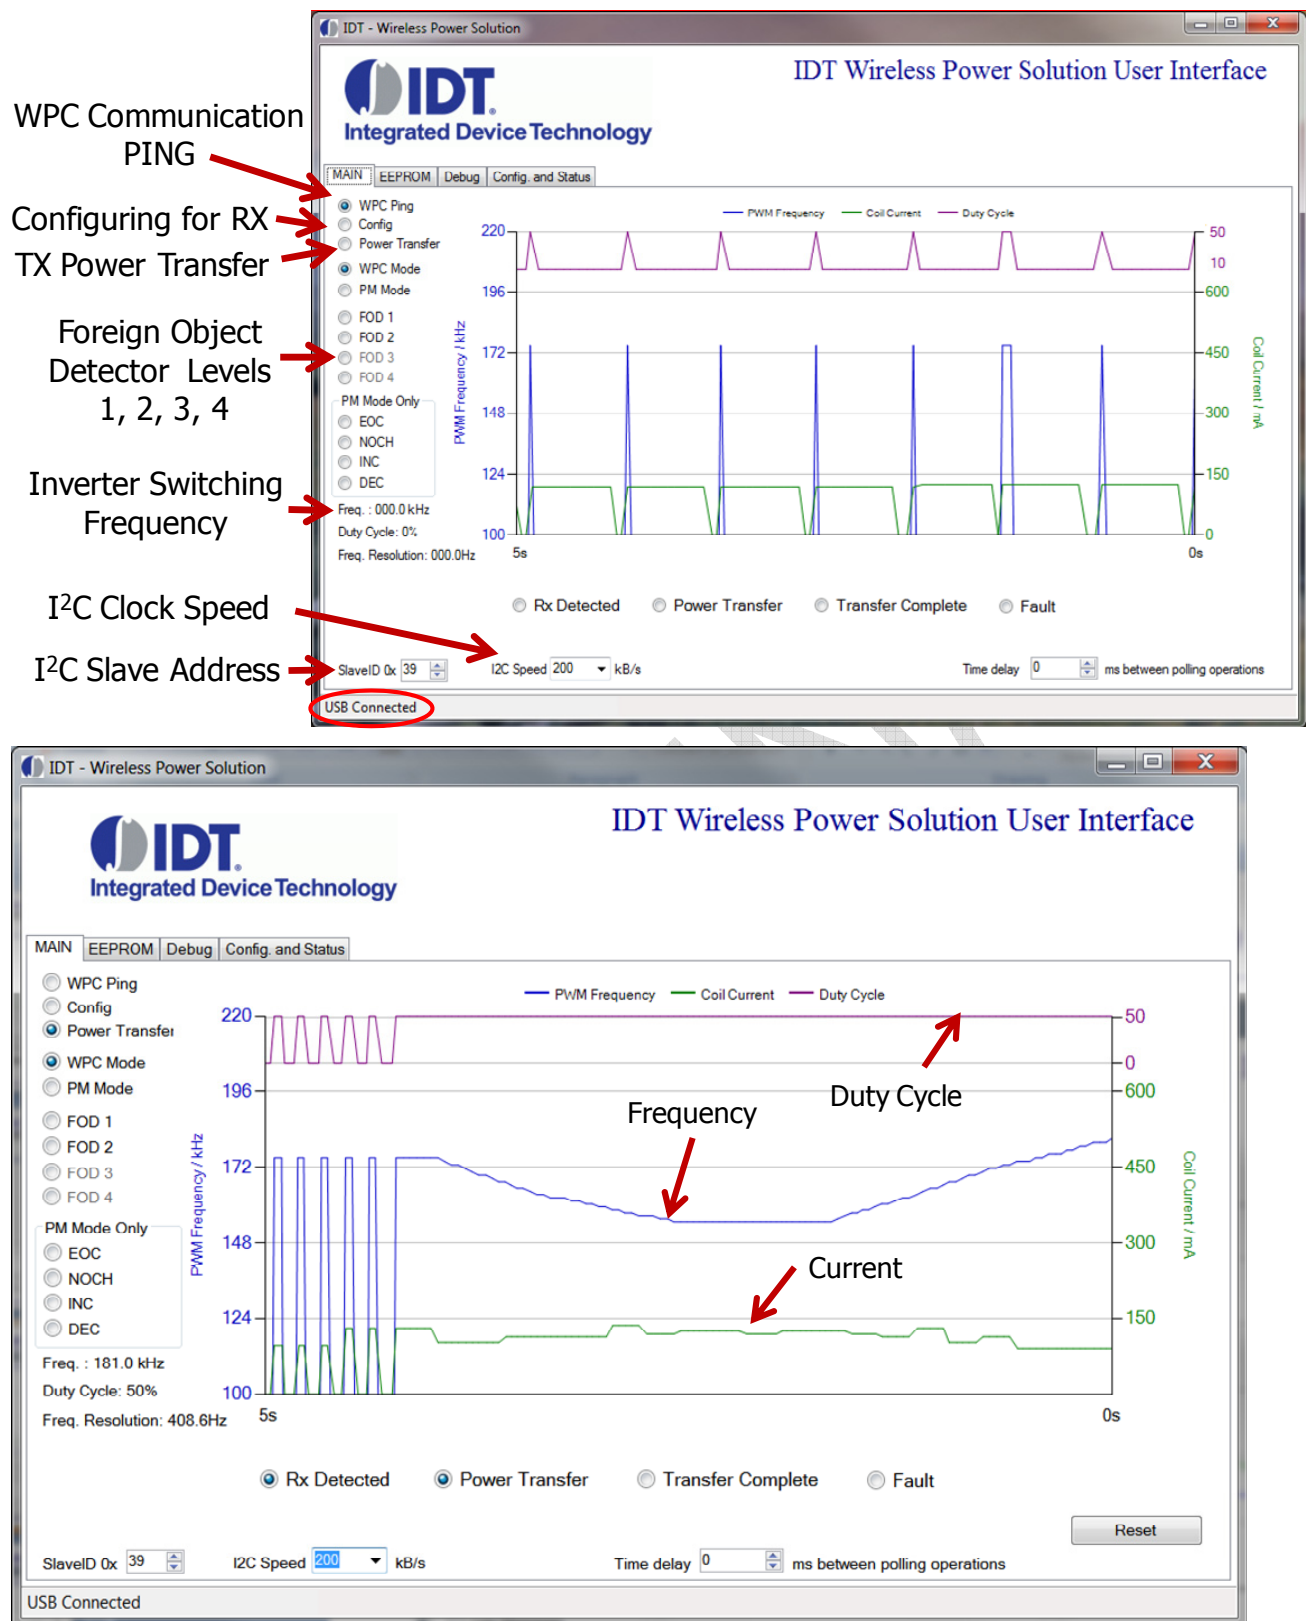

Figure 4. Windows GUI MAIN Tab Details and Signals.
8. Observe the different real time signals propagating on the “MAIN” tab of the GUI (Figure 4).
9. Add a 5W load to the to the RX device or IDTP9020 RX demo board and observe the current increasing and frequency change (Figure 4).
You can verify that the IDTP9030 is properly connected to your computer and able to communicate to the evaluation board by looking at the lower left of Figure 4. It should state “USB Connected”. Otherwise it will state in Red letters: “USB Disconnected – Check Connection”.
- 2) Placing different objects and loads onto the coil will change the real time signals, and it will change the location of the Blue dot at the left side of the GUI’s MAIN tab (Figure 4). For example, when the system is first turned-on, and without a load on the coil, the Blue dot will flash, i.e, “ping”, at the WPC Ping text location, at the very top left hand side of GUI. Then, when a load is placed on the coil, the flashing Blue dot at WPC Ping will cease and a solid Blue dot will appear at the Power Transfer Line text location on the left hand side of the GUI. Also, it should be noted that the blue LED will be lit on the eval board. Note, however, that if the load is not perfectly centered on the coil, the blue dot on the eval board will not be lit. In this case, readjust the load to make sure it is very well centered. Also, once the RX has established good communication with the evaluation board, both the RXDET and PWR XFR LEDs should be glowing on the eval board, and this should correspond with the Rx Detected and Power Transfer “non flashing” solid Blue dots located just below the real time signals on the MAIN tab of the GUI.